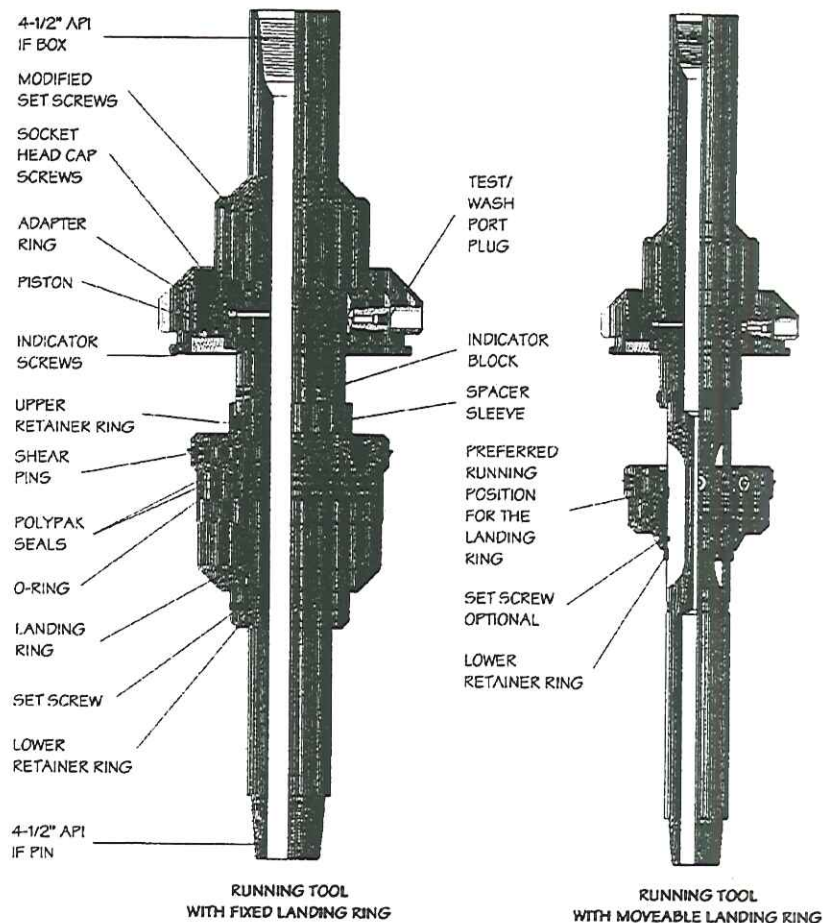

Figure 5. Typical Lockdown Sleeve Running and Retrieving Tools
Note: There are two basic types of the Lockdown Sleeve Running and Retrieving Tool that are run inside of riser. One type of Tool has a fixed landing ring; the other has a moveable landing ring. The recommended running position for the moveable landing ring is shown in **Figure 5**.
1. Refer to **Figure 5** for identification of the Lockdown Sleeve Running and Retrieving Tool (Running Tool) components. Record the part number and serial number of the Running Tool for the permanent well file.